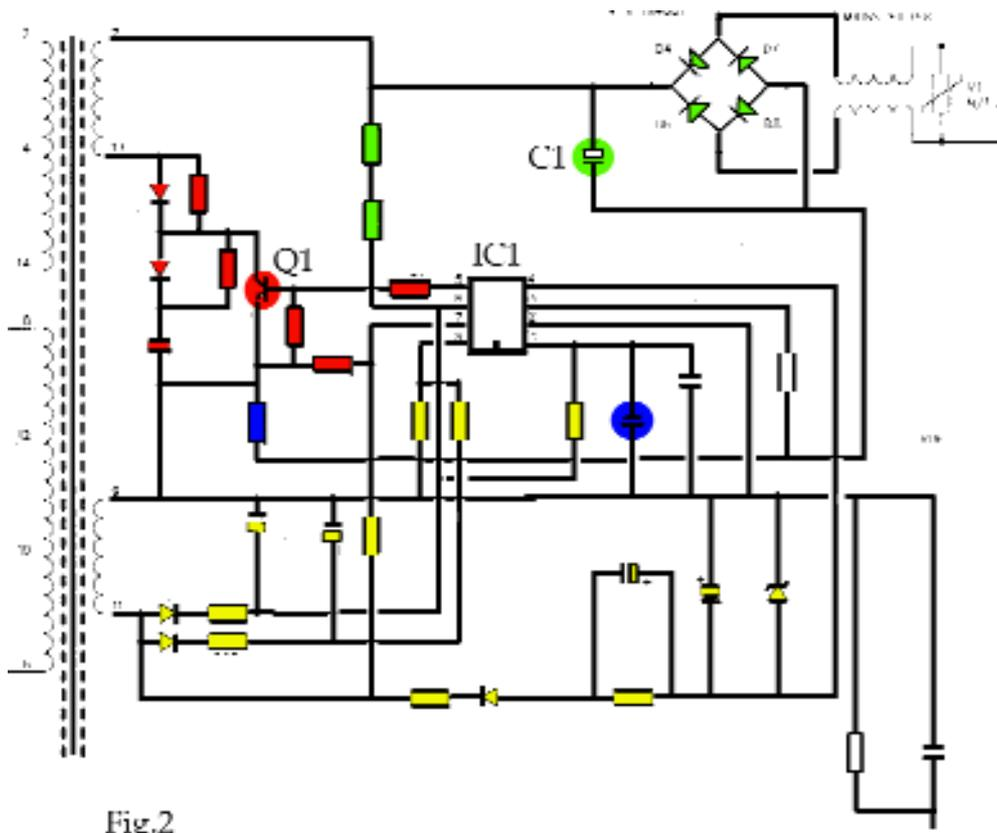

Fig.2
Fig.2 shows the active part of a typical **SMPSU** (**S**witch **M**ode **P**ower **S**upply **U**nit). The switching I.C. (IC1) is supplied with a voltage via the green resistors. These are dropping the voltage from around 350 volts to about 9 volts so they have to have a high voltage rating. You’ll often find two resistors connected in series from C1 (as shown) in order to share the high voltage between them. Sometimes a single high voltage resistor is used alone. The resultant low voltage is used to power IC1 during start-up. If one of the resistors is open circuit or too high in value, the I.C. will not receive enough power and will be unable to start. The same effect can be caused by failure of the (yellow) electrolytic used to smooth the voltage. The result may be an audible ticking or an output voltage which pulses once or twice each second. You should be able to see this if
To ensure that the output voltages are correct and constant, another transformer winding produces a low voltage which is fed back to the yellow components (Fig.2) This voltage is “smoothed” and fed to IC1 which compares it with a steady reference voltage generated by the Zener diode (yellow, far right, Fig.2) IC1 widens or narrows the pulses to Q1 to increase or decrease the output voltage, thus keeping it constant and correct.
The red components in Fig.2 are mostly for protection of Q1 which has to handle very high voltage and current pulses. The blue resistor connected in line with Q1’s emitter is a **fusible resistor** which will go open-circuit if Q1 is held “on” for more than a few milliseconds. This would occur if IC1 stopped oscillating for any reason. The capacitor encircled in blue (Fig.2) is responsible for setting the oscillating frequency of IC1. It is important that this frequency is correct or Q1 could overheat and burn out.
Fault finding of this part of the circuit (Fig.2) is best done without power connected. **Replace all electrolytics as a matter of course.** They have a limited life so it is false economy to try to prolong their useful life. If this doesn't cure the fault, measure each of the resistors (make sure all capacitors are discharged and C1 is removed first!) and diodes. If Q1 has failed, the fusible resistor (blue in Fig.2) will also have failed so there is seldom any doubt.
*If you are colour blind I apologise for using colours but it's easier to give a general explanation this way. In fig.2 the "red" components are clustered around Q1, to the left of IC1. The "yellow" components you can probably recognise because this is the lightest colour. The two "green" resistors are positioned vertically, above and to the right of Q1 and joined to the 350 volt connection from C1. The "blue" fusible resistor is directly below Q1.*